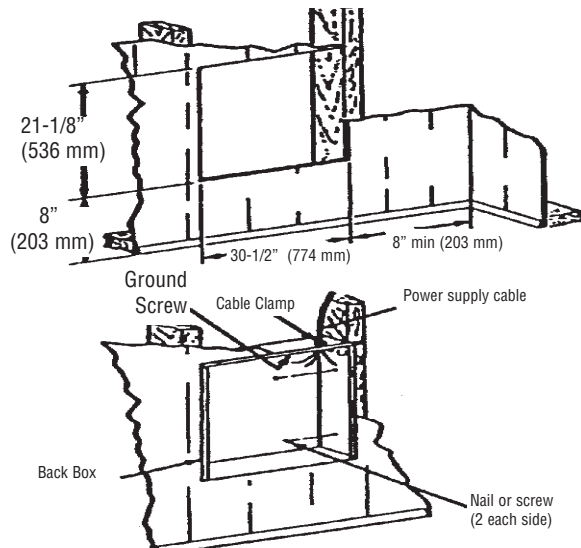

Figure 2: Locating Recessed Back Box in Existing Construction
4. Run a power supply cable into the knockout area in the upper right hand corner of the back box (see Figure 2). All wiring must be in accordance with National and Local Electrical Codes. Refer to Table 1 for correct wire size.
1. Provide a wall opening 30-1/2" (774 mm) wide by 21-1/8" (536mm) high at the desired mounting height, but no closer than 8" (203 mm) to floor or adjacent wall. (See Figure 2.)
- Secure the back box in place with wood screws or nails (see Figure 2)